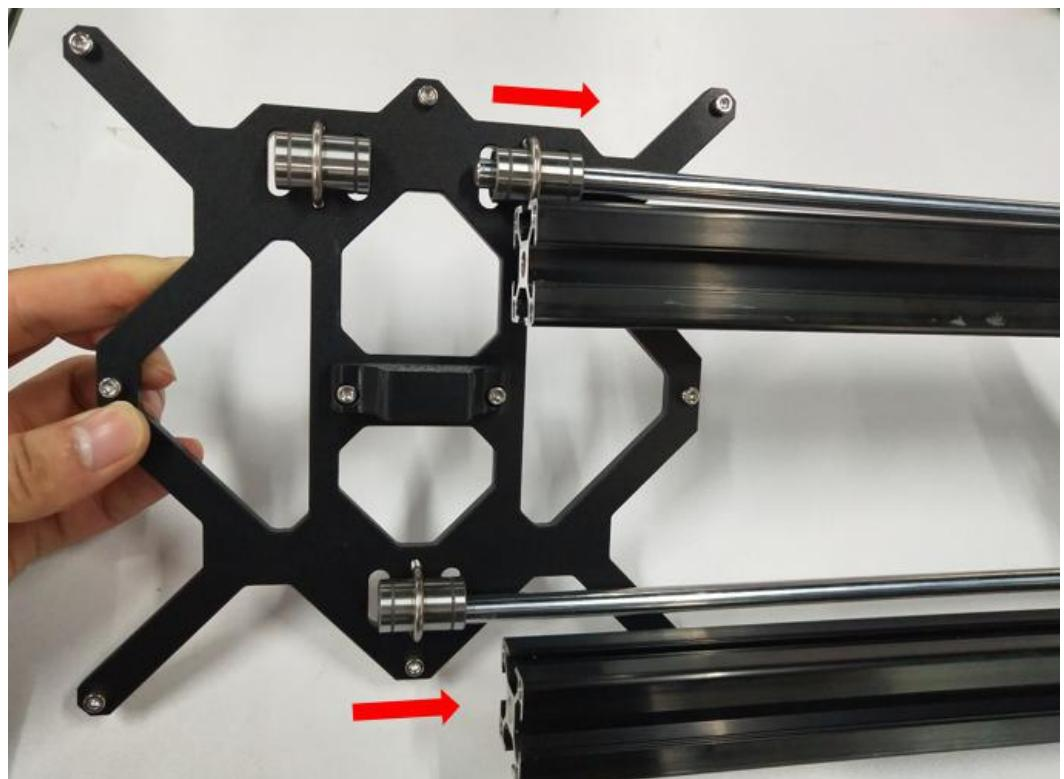

Figure 1.9.2
**Step 1-9-2:** As shown in Figure 1.9.2, pay attention to put the finished product of step (7) gently into the smooth rod on the profile as the direction shown in Figure, Note that the linear bearing should be aligned with the smooth rod , otherwise it will easily cause the linear bearing ball to fall down (If you accidentally push the balls in the linear bearing out of the bearing, one or two can continue to be used. If there are more than two, please consider replacing the new linear bearing).